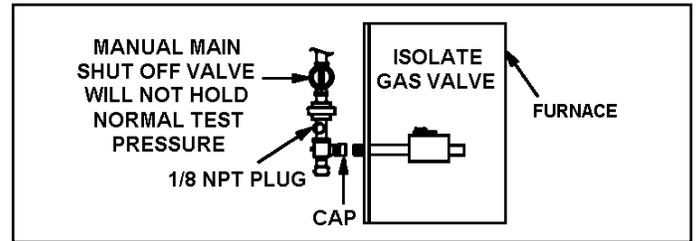

Figure 26.
5. A 1/8" N.P.T. plugged tap or pressure post is located on the gas valve to facilitate test gauge connection. See Figure 26.
When testing pressure of gas lines, gas valve must be disconnected and isolated. See Figure 26. Gas valves can be damaged if subjected to pressures greater than 1/2 psig (3.48 kPa, 14 inches w.c.).